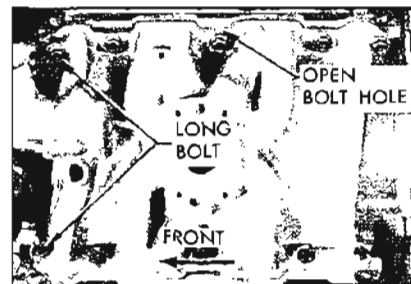

Figure 2-32—V-6 Intake Manifold Installation
4. Install manifold attaching bolt in open bolt hole as shown in Figure 2-32. Open bolt hole is held to close tolerances and the bolt in this location serves to locate the manifold fore and aft.